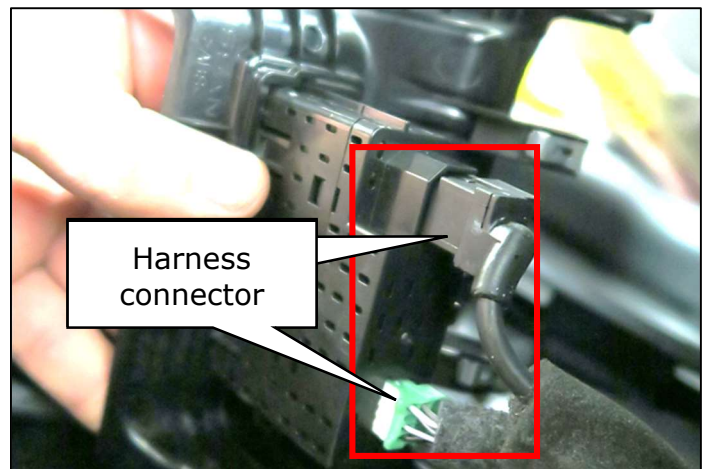

Figure 17
16. Slide the USB finisher out of position and disconnect the (2) harness connectors. (Figure 17)